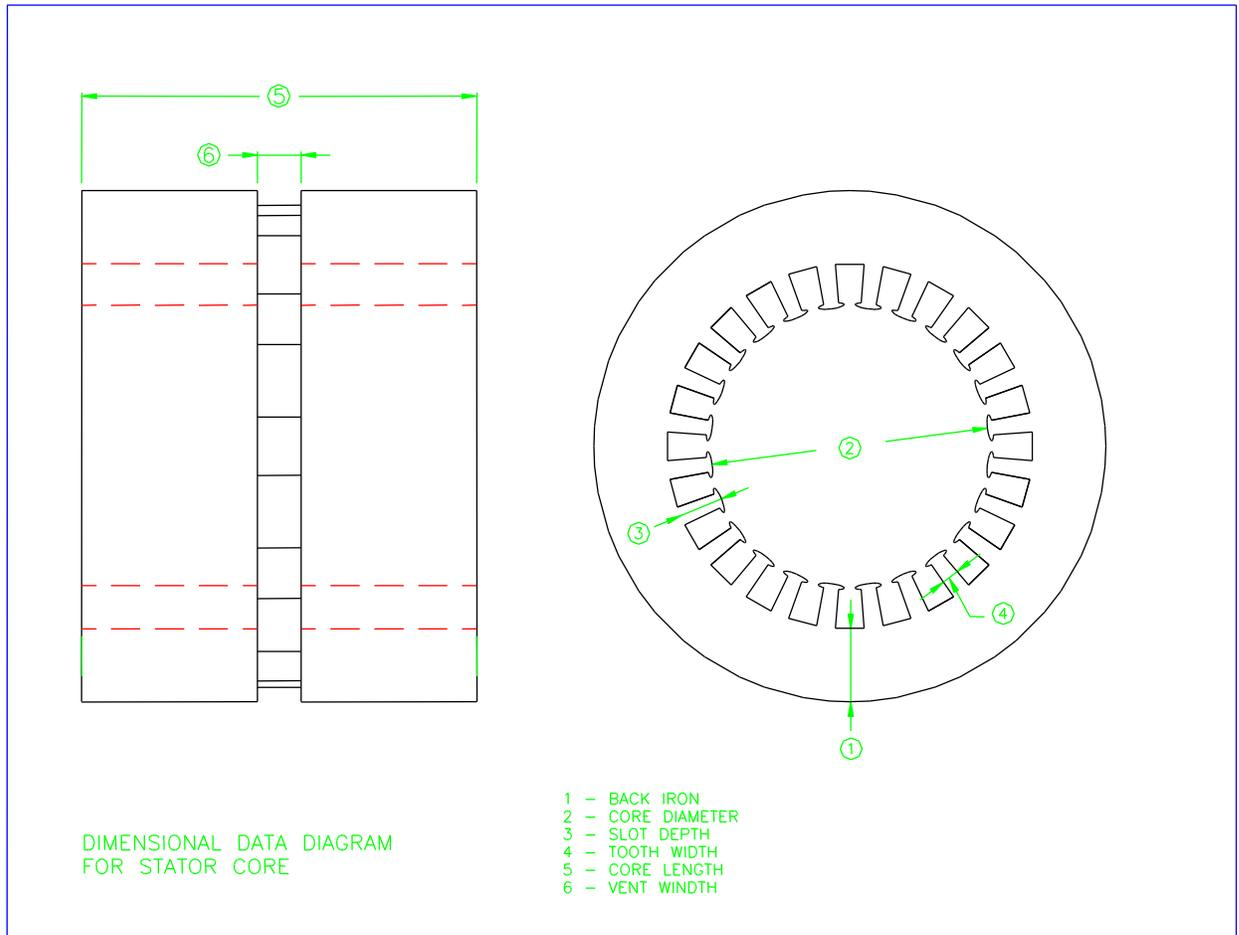
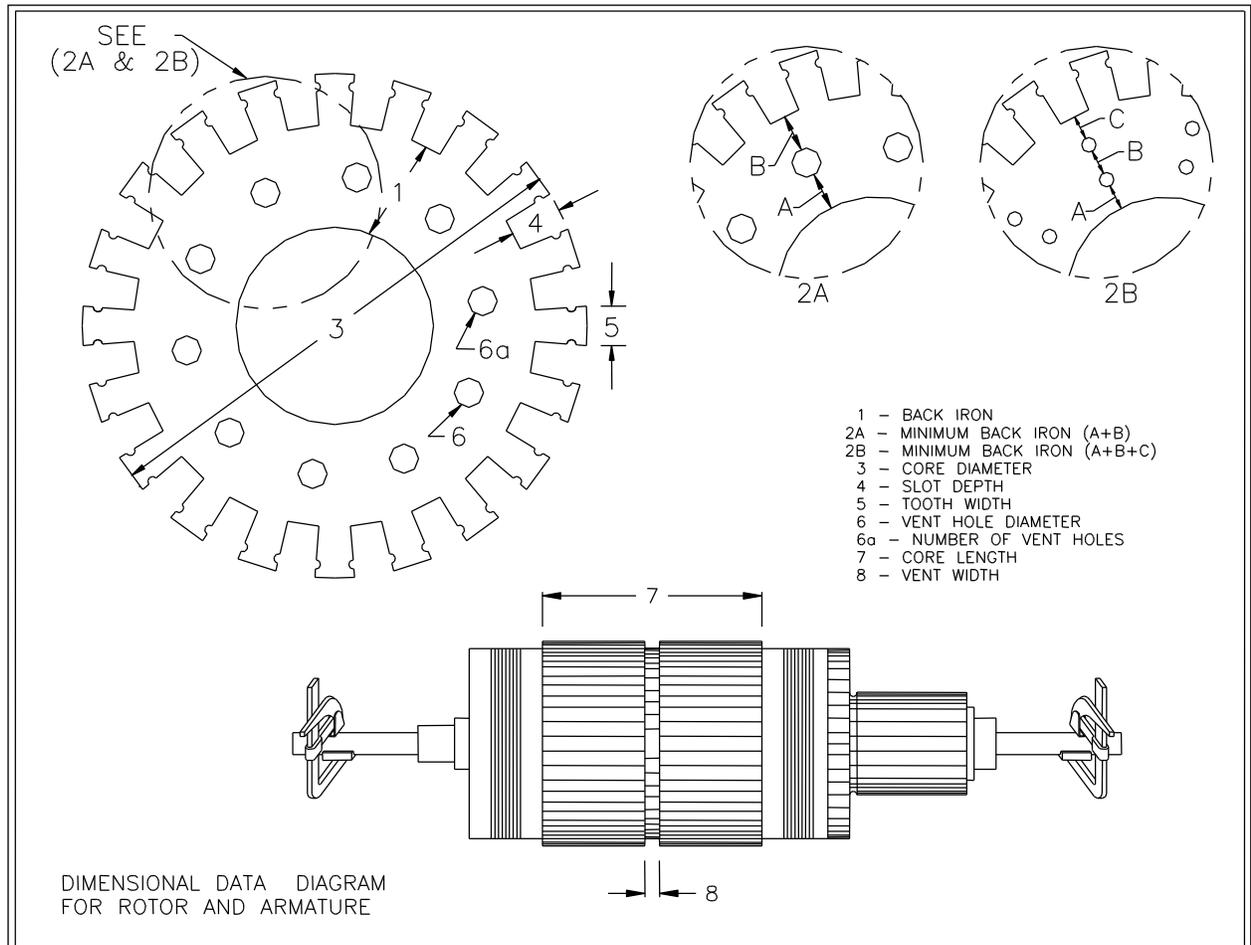

Figure 3-2. Typical Stator Core Measurements.
Figure 3-3. Typical Rotor/Armature Measurements.
Figure 3-2 illustrates the measurements required on a typical stator core. The following items further describe each measurement.
3. Slot Depth. For this measurement it may be easier to measure the height of the tooth as shown in Figure 3-2.
4. Tooth Width. Measure the width of the tooth from side to side, just below the crown of the tooth, as shown in Figure 3-2. Do not measure the width at the top of the tooth.
Figure 3-3 illustrates the measurements required for a typical rotor/armature. The following items further describe each measurement.
3. Slot Depth. Measure the depth of the slot as shown in Figure 3-3. If it is easier, the height of a tooth may be measured as shown in Figure 3-2.
4. Tooth Width. Measure the width of the tooth at the top of the tooth, as shown in Figure 3-3.
7. Core Length. Measure the entire length of the core, including the vent slot, from the first plate to the last plate, as shown in Figure 3-3.